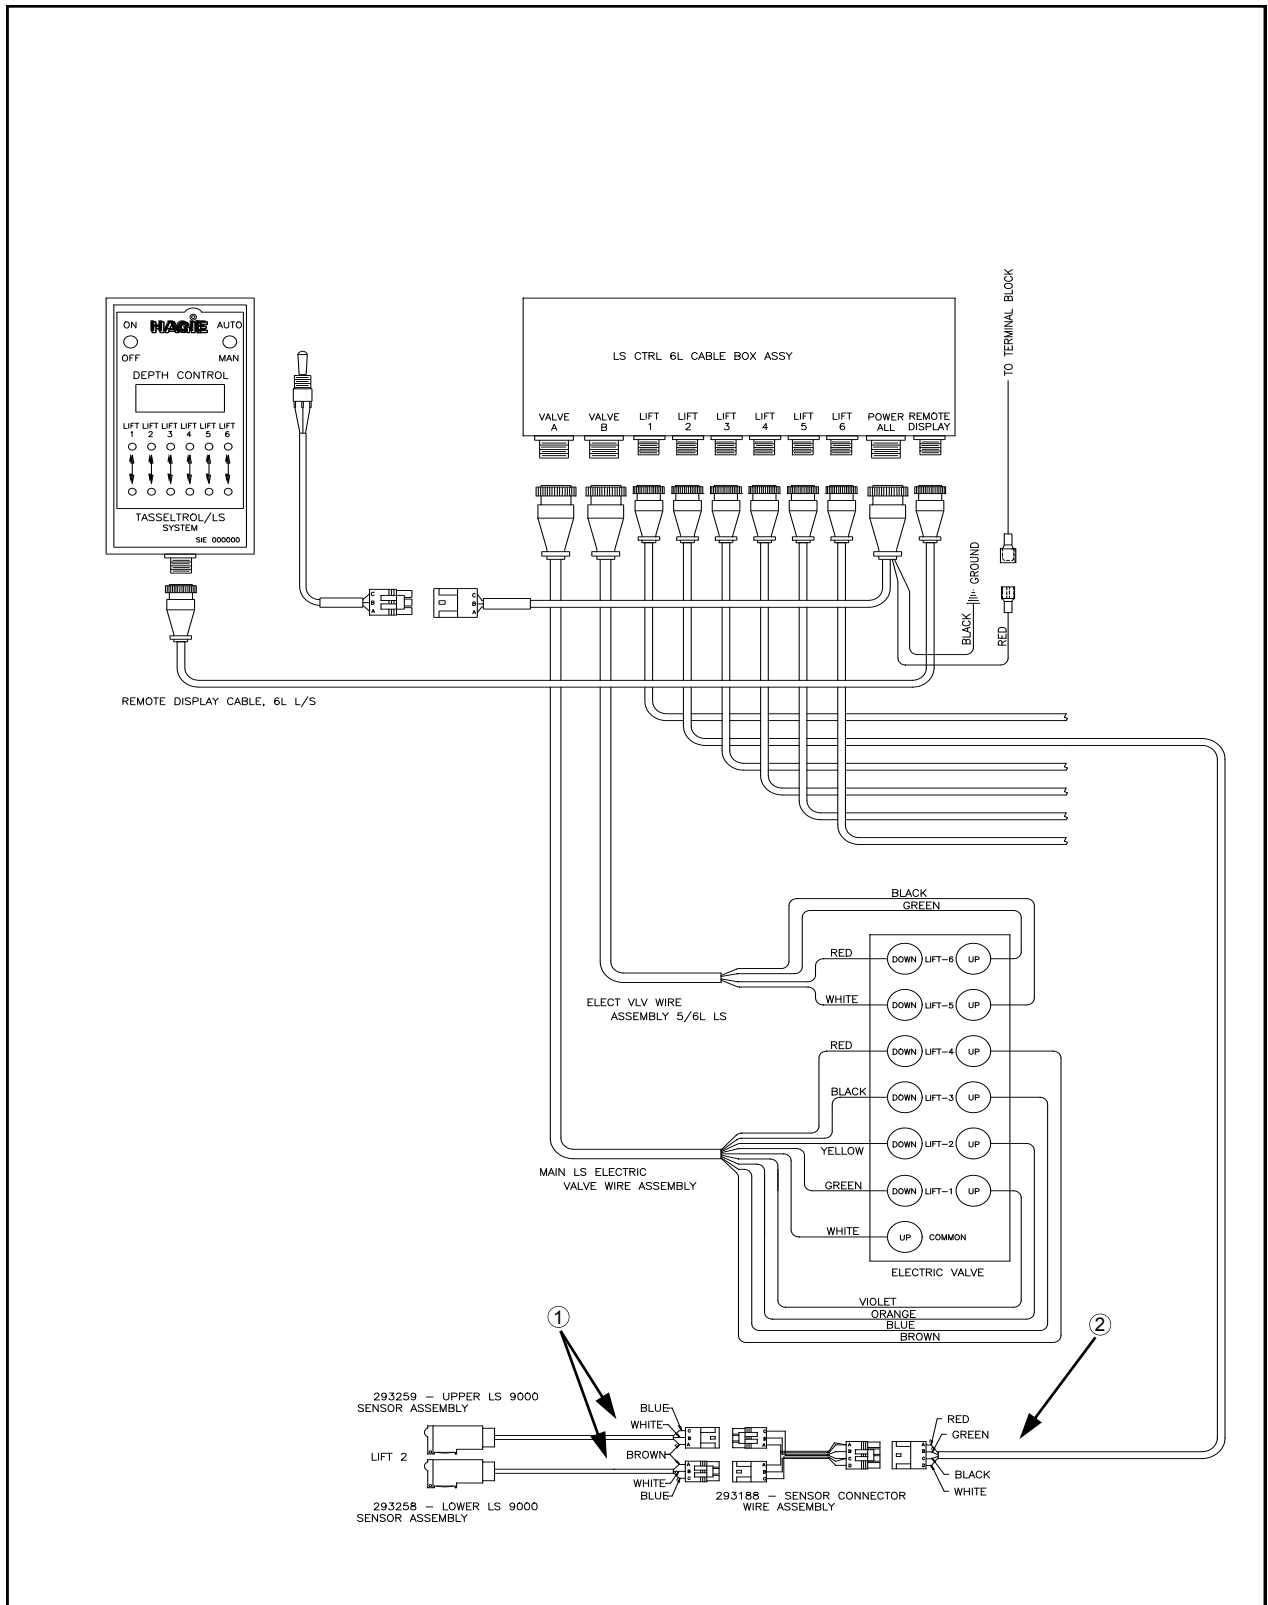

FIG 9.1
No lights at either photo sensor	Faulty connector cable (See page XXX, fig. 9.1, item 2) Faulty RED and/or BLACK wire in connector cable (See page XXX, fig. 9.1, item 1)
Lights at lower photo sensor	<p>Faulty GREEN wire in connector cable (See page XXX, fig. 9.1, item 2)</p> <p>Photo sensor not in line with reflector (See page XX)</p> <p>Faulty BLUE wire in sensor assembly (See page XXX, fig. 9.1, item 1)</p>
No lights at lower photo sensor	<p>Faulty RED and/or BLACK wire in connector cable (See page XXX, fig. 9.1, item 2)</p>
Lights at upper photo sensor	Faulty WHITE wire in sensor assembly (See page XXX, fig. 9.1, item 1) Faulty BLUE wire in sensor assembly (See page XXX, fig. 9.1, item 1)
No lights at upper photo sensor	Faulty RED and/or BLACK wire in connector cable (See page XXX, fig. 9.1, item 2)